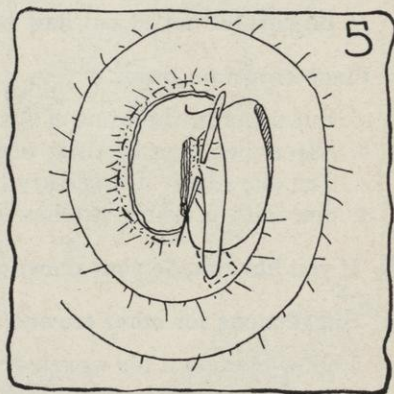

FIG. 5.
- (15) Unpin the fold at the center, lay one folded edge on top of the other (see Figure 5).
- (a) Sew raw edges together on the wrong side of the fold with back stitches (see Figure 5).
- (16) Replace fold, and finish slipstitching to the very center.